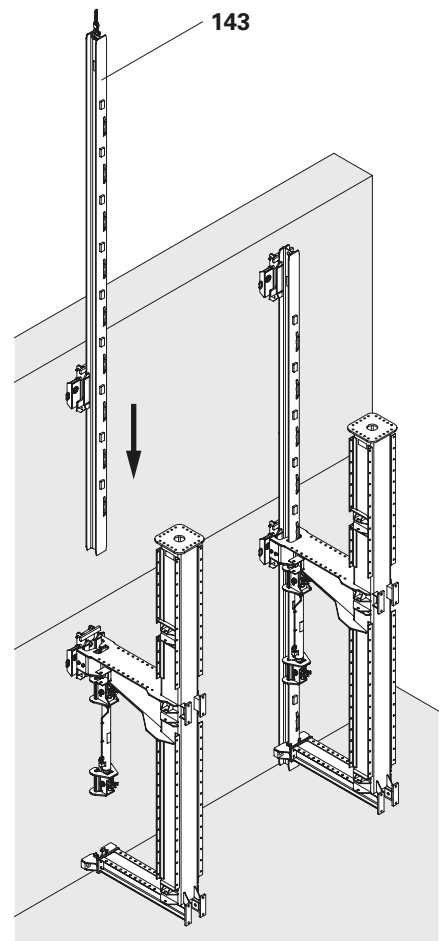

Fig. C6.06
(Fig. C6.06)
- In the interests of providing a clearer overview, a simplified representation is shown in Fig. C6.06.